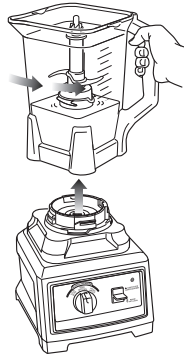

Fig. 7
- 11 To remove the lid, press the release button on the lid, pull the lid handle up to a 90° angle and lift the lid off. Holding the pitcher with one hand while removing the lid with the other will provide the best leverage. Turn the pitcher counter clockwise and then lift off the base. Do not pour out ingredients without first carefully removing the top blades. (Fig. 7)